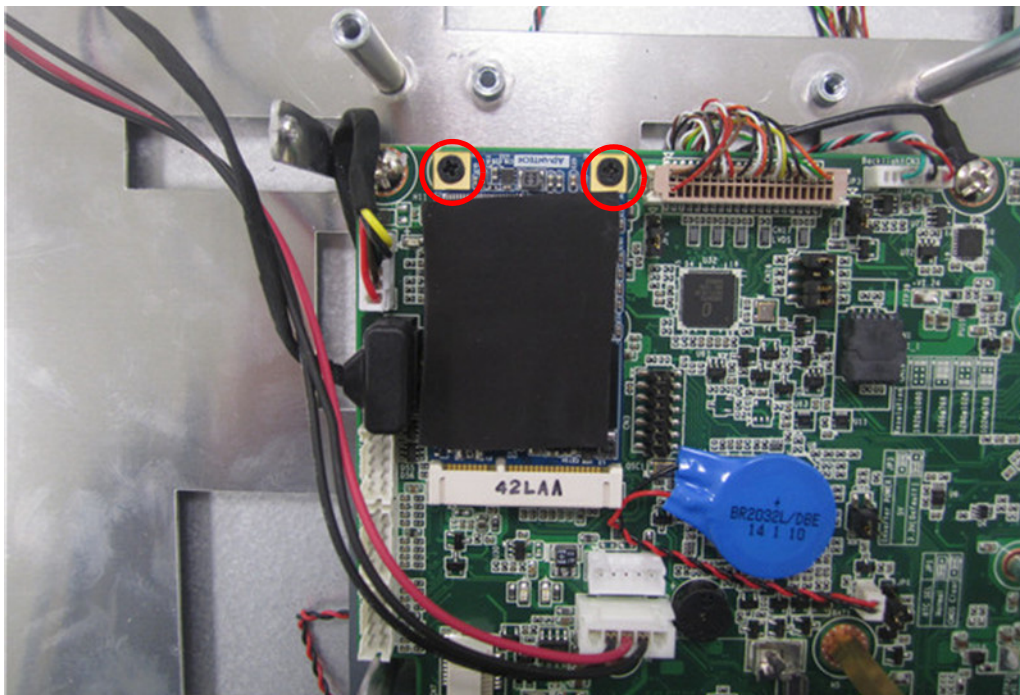

Figure 2.16
2. To install a full-size mini SATA card, insert the mini SATA card into the correct mainboard slot, and affix it in place using two M2.5x4 screws provided in the accessory box. Then retrieve the thermal pad provided in the accessory box and install it atop the mini SATA card (see Fig. 2.16).